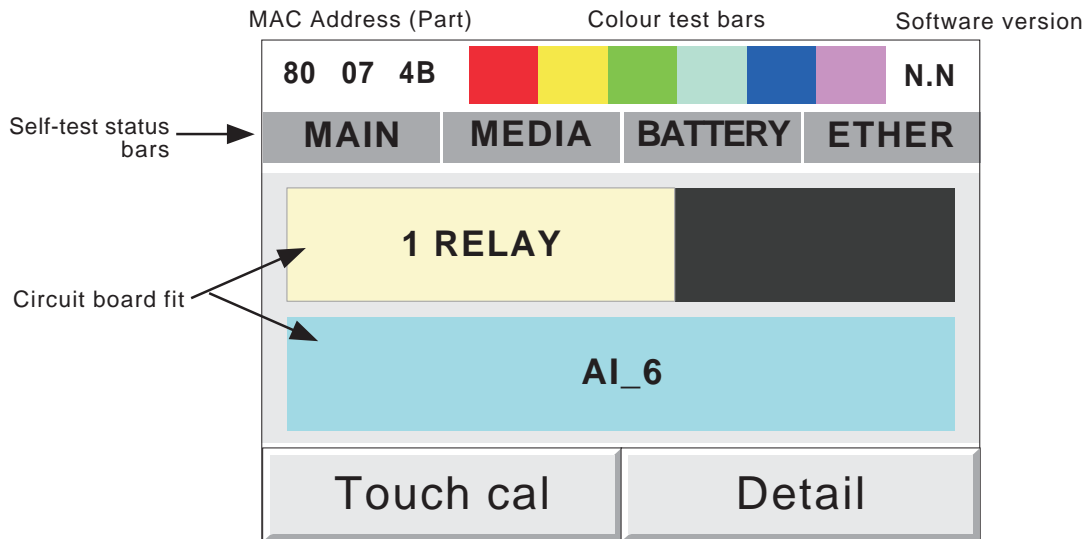
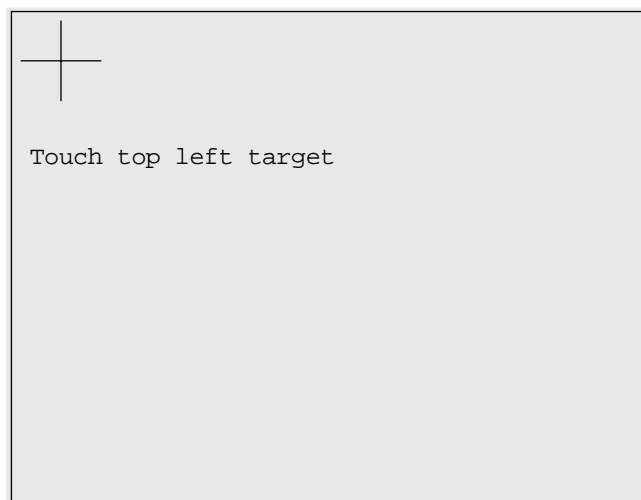

Figure B1 Top-level diagnostic display
Figure B2 Initial calibration display
At power-up, continuously hold a finger in contact with the screen until (after approximately 30 seconds) the diagnostic display appears as shown in figure B1. If no further action takes place within approximately five minutes, the display times-out to the calibration display described in section B2, below.
1. At power-up, continuously hold a finger in contact with the screen until (after approximately 30 seconds) the diagnostic display appears as shown in figure B1. Operate the Touch cal key to call the first calibration screen, as depicted in figure B2*